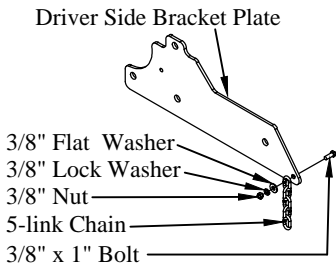

Figure 4: Chain-up feature hardware.
- 5. **Install** the 5-link chain on the driver side bracket plate with a 3/8" x 1" bolt, flat washer, lock washer, and nut (Figure 4).